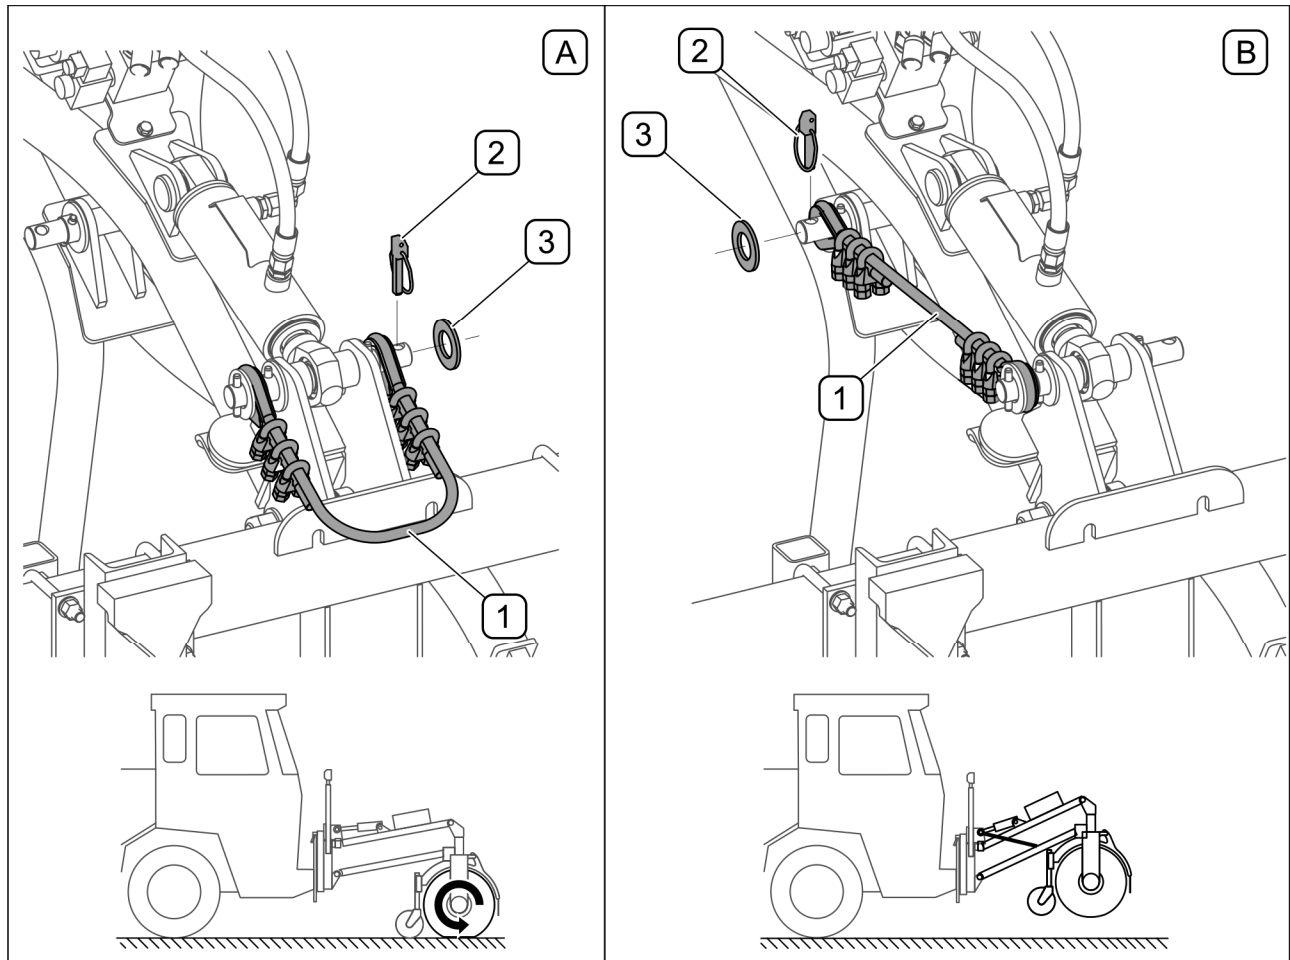

FIG. 4.16 Installing transport lock
- When transporting a raised machine, protect the linkage against falling or accidental dropping with transport lock (FIG. 4.16).
In order to secure the machine's linkage in transport position and protect it against falling or accidental dropping (FIG. 4.16) :